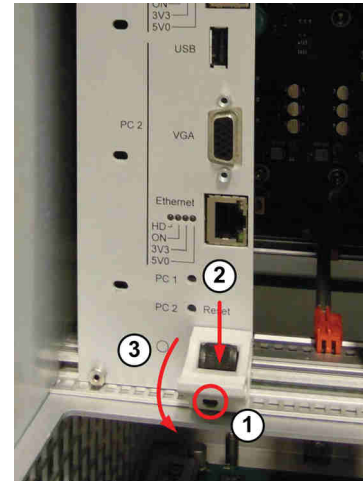

Fig. 10.23 Handle
- 3 Using tools 1/4 or tool 9, loosen the screws in the upper and lower handle, marked with 1 in Fig. 10.23 \(p. 144\) - these two screws are fixing the module to the frame.
Release the two handles (upper handle and lower handle) by pushing the black button into the handle - marked as "2" in Fig. 10.23 \(p. 144\). While doing this simultaneously on the two handles, move the upper handle upwards and the lower handle downwards ("3"). This will pull the module out of the connector.